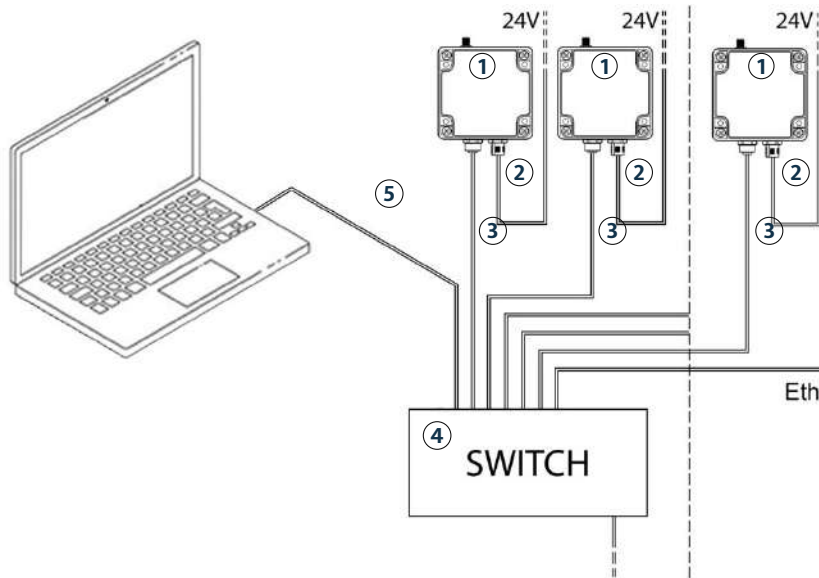

Figure 4-IV: Configuration set-up
1. Set up and connect a PC running the R3 Configuration Server and the Bridge E devices ①, intended to be in the same network or subnetwork, to the switch ④, according to Figure 4-IV: